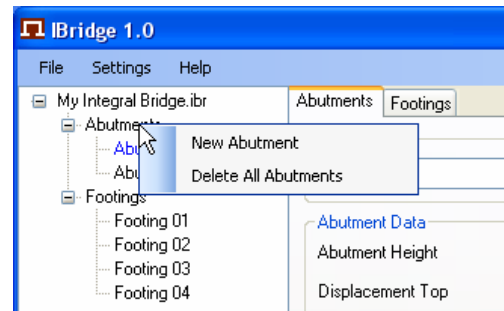

Fig. 6.2 Context menu
- Right mouse click on the nodes **Abutments** or **Footings** displays context menu with items **New Abutment /Footing** and **Delete All Abutments /Footings**, see Figure 6.2,